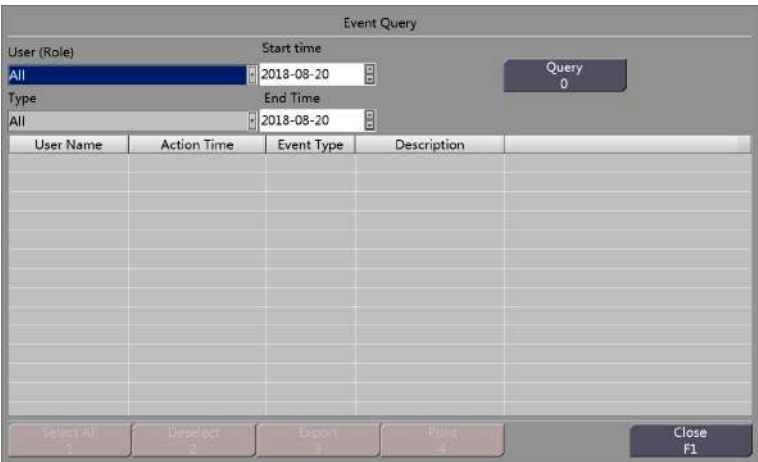

Figure 15-12 Event Querying Interface
Step 1 Choose Log Management from the main menu in Figure 15-1 to display the Log Management interface, as shown in Figure 15-1. Choose Event Query from the Log Management menu to display the Event Query interface, as shown in Figure 15-12.